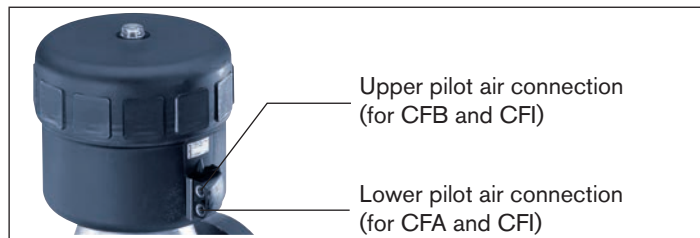

Fig. 2: Pilot air connection
- Pressurize lower pilot air port with compressed air (value as indicated on the type label) (see „Fig. 2“).